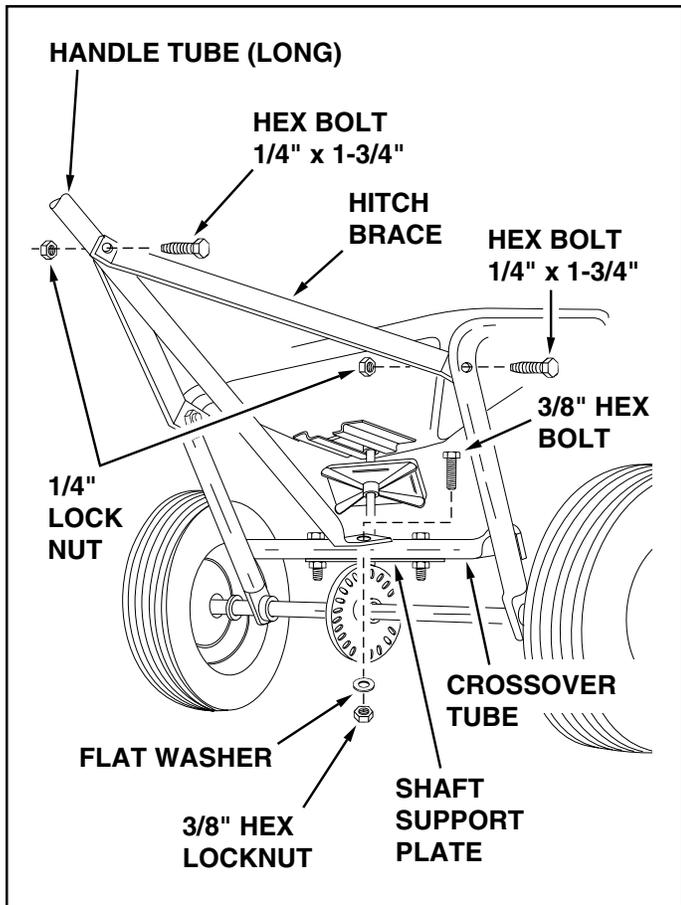

FIGURE 4
10. Assemble two handle braces to the inside of the hopper frame, one on each side, using two 1/4" x 1-3/4" hex bolts and two 1/4" lock nuts. See figure 4. **Do not tighten at this time.**
11. Assemble the other end of the two handle braces to the long handle tube using a 1/4" x 1-3/4" hex bolt and 1/4" lock nut. **Do not tighten at this time.** See figure 4.
12. **Tighten** all hex lock nuts and bolts in same sequence as assembled in steps 9 through 11. See figure 4.